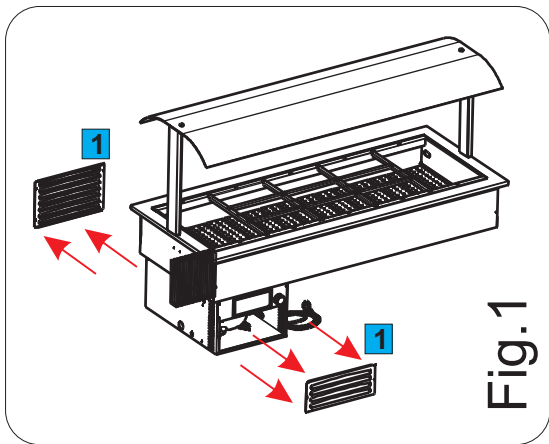

Fig.1
- 1- TOGLIERE LE GRIGLIE DI PROTEZIONE DEL VANO MOTORE (FIG. 1) CHE ANDRANNO POI INSTALLATE NEL MOBILE "CONTENITORE" PER PERMETTERE L'ENTRATA E L'USCITA DELL'ARIA
- 1 REMOVE THE PROTECTION GRIDS OF THE COMPRESSOR COMPARTMENT (FIG 1) MOUNT THESE GRIDS ON THE STRUCTURE/FURNITURE ON WHICH YOU PUT YOUR DROP-IN INSIDE IN ORDER TO ALLOW THE CORRECT INPUT AND OUTPUT OF THE AIR
- 1- ENTFERNEN SIE DIE LUEFTUNGSGITTER DES MOTORRAUMS (FIG 1) – DIESE WERDEN AUF DER VORBEREITETEN MOEBELEINRICHTUNG/STRUKTUR FUER DEN EINBAU WIEDER MONTIERT DAMIT DER EIN- UND AUSGANG DER LUFT ERMOEGLICHT WIRD.